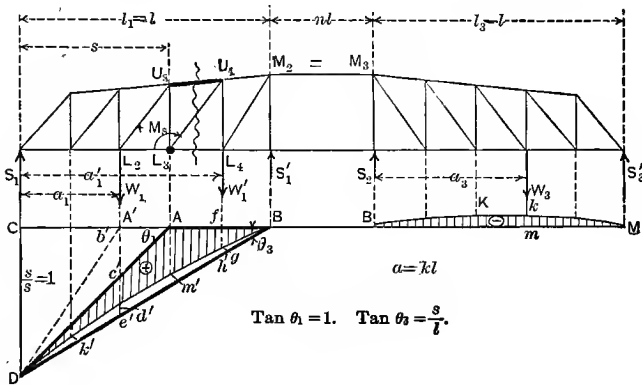

FIG. 34.
**Partially Continuous Truss.**—In Fig. 34 is shown a common form of the revolving draw-bridge. The two end spans are equal and are separated by an unbraced
**Top Chord of a Partially Continuous Truss.**—Referring to Fig. 34, the top chord  $U_3U_4$  has its center of moments at  $L_3$ . For loads in this span,
The influence diagram for  $\frac{m_s}{s}$  is represented by the *base diagram* drawn with  $CD=1$ . This is shown in Fig. 34 by the heavy line triangle.
The influence diagram corresponding to this expression is shown by the shaded area *BKM*, Fig. 34.